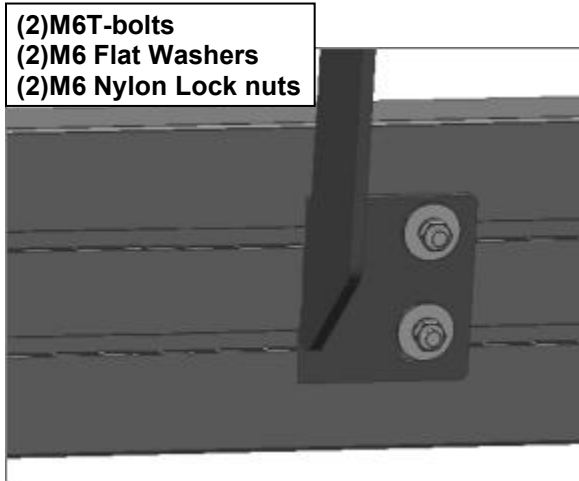

Fig 18 Bracket Installation
7. Once all (3) Brackets have been installed, Select a Running Board. Slip (12) M6 T- Bolts into each bottom channel (**Figure 17**). Carefully position the Running Board onto the Mounting Brackets. Attach the Running Board to the Mounting Brackets with (2) M6 T- Bolts, (2) M6 flat washers and (2) M6 nylon lock nuts, (**Figure 18**). Do not tighten hardware at this time